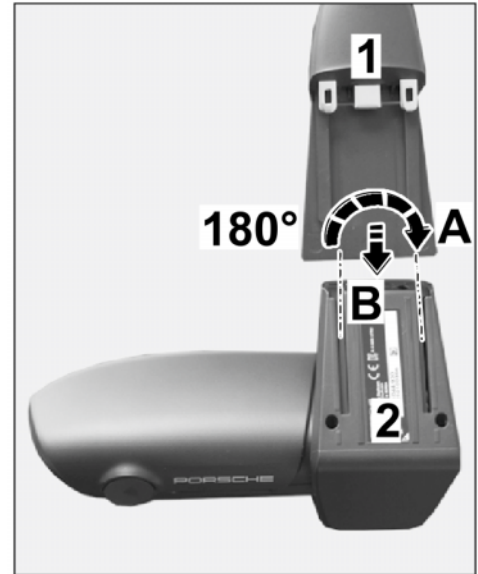

Figure 7
2.1.1 Fit retainer plate with wire harness on the base of the front camera until the locking mechanism engages (⇒ *Figure 7*).